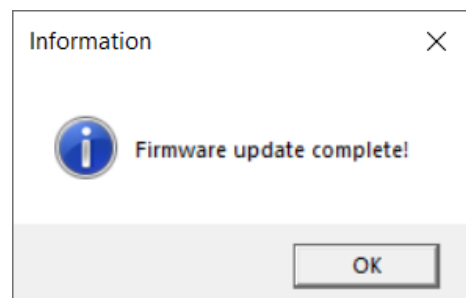

Figure 165. IO-Link FW Update Success Message
- update via IO-Link: Figure 165 shows the confirmation pop-up window for successful FW Update.